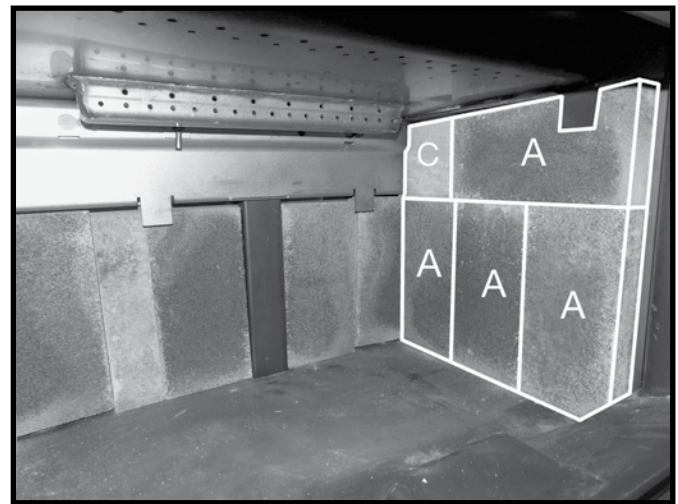

Figure 24: Right side wall final A brick placement.
4. Slip an "A" brick horizontally on top of the center and near "A" bricks. Insert this brick behind the tab as shown in Figure 24.